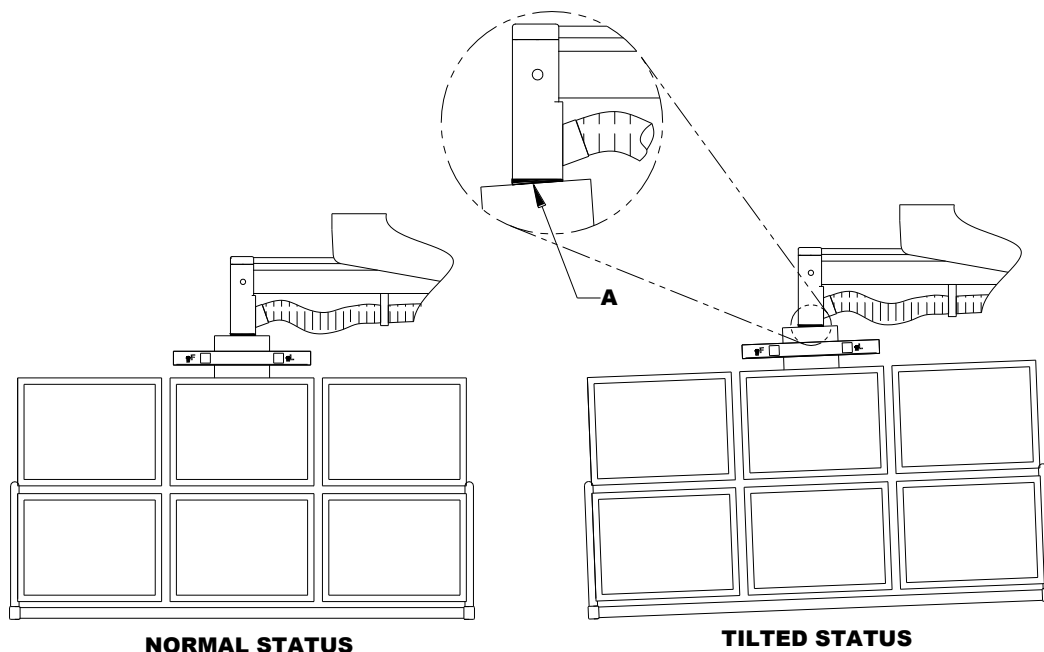

Figure 18
- The monitor suspension is not tilted. Refer to Figure 18.